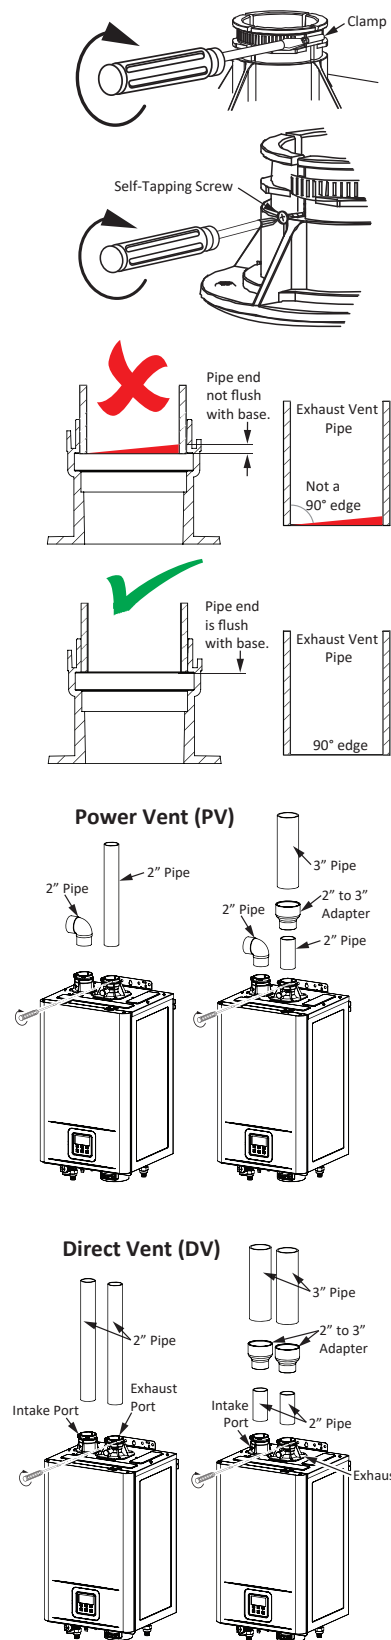

Figure 15 - Vent Pipe Installation
**1** Insert 2" straight pipe fully into the exhaust/intake ports. (See Figure 15) The pipes should insert 2 inches.
**2** Use a screwdriver to tighten the clamp. (See Figure 15)
**3** Use the supplied self-tapping screws to secure the venting to the intake and exhaust ports as shown in the image on the right. (See Figure 15)